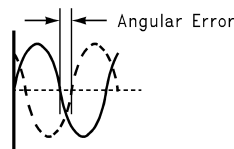

Figure 23. Angular Errors Between the Two Input Signals Will Reduce the Output Level or Cause Distortion
- dev is the angular difference in degrees between the two signals having a 180° relative phase relationship to each other (see Figure 23) (11)